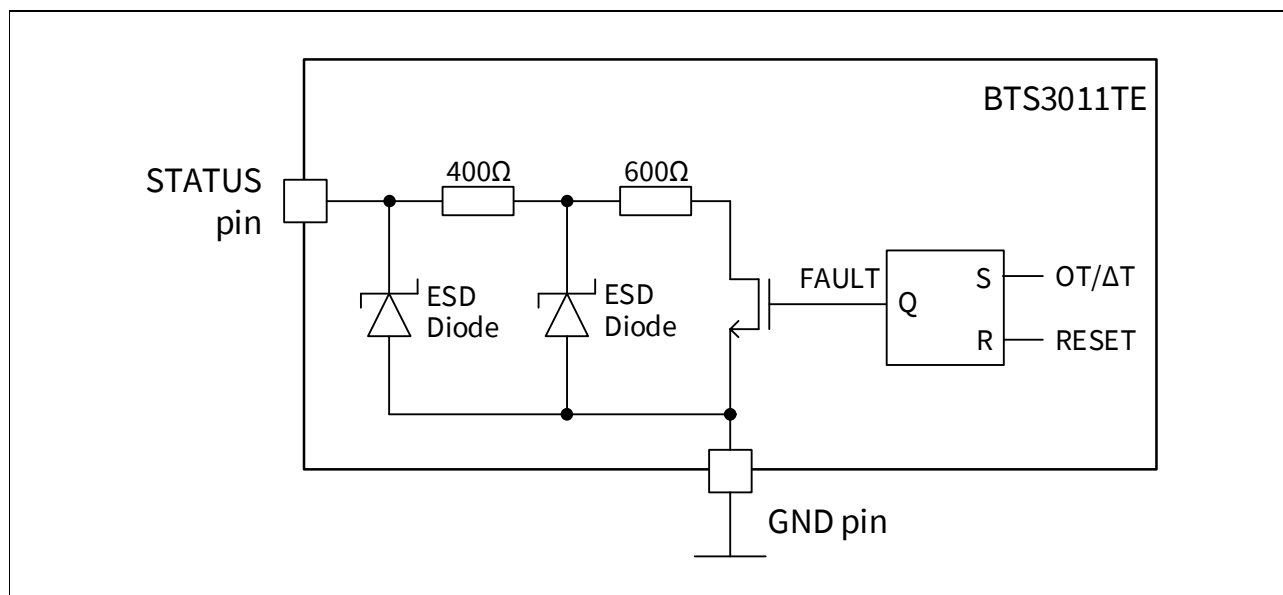

Figure 5 BTS3011TE STATUS pin structure (typical values)
- 1) I_{LIM(TRIGGER)} at each cycle may impact device lifetime. Refer to datasheet for values of I_{LIM(TRIGGER)} and I_{LIM}. Refer to your local sales contact or distributor for more information. R₁=600 Ω for V_{DD}=5 V and R₁=100 Ω for V_{DD}=3.3 V. See Figure 5 for details on the STATUS pin structure. Refer to your local sales contact or distributor for more information.
Figure 5 shows a schematic diagram of the internal structure of the STATUS pin for HITFET™ + BTS3011TE. The values from the diagram can be used to compute the appropriate resistor-based customer's V_{DD} voltage.